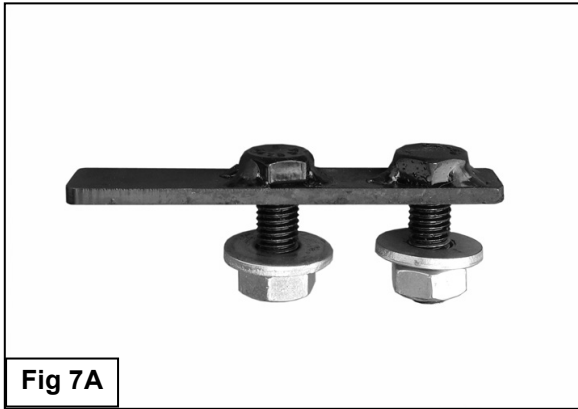
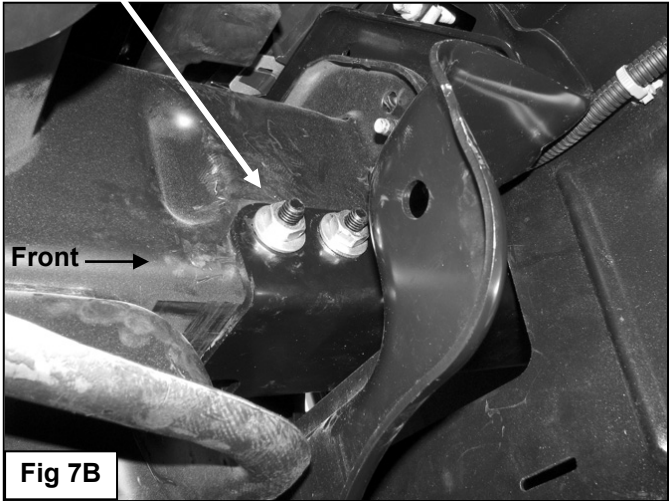

Fig 7A
Fig 7B
3. Select (1) 12mm Double Bolt Plate, **(Figure 7A)**. Insert the Bolt Plate into the end of the frame, through the (2) holes in the side of the frame and out through the Bracket. Secure the Bracket to the Bolt Plate with (2) 12mm Flat Washers, (2) 12mm Lock Washers and (2) 12mm Hex Nuts, **(Figure 7B)**. Snug but do not fully tighten hardware at this time. Repeat this **Step** to install the 12mm x 35mm Single Bolt Plate, **(Figure 8A)**, into the remaining hole in the other side of the frame channel and Bracket, **(Figures 8B & 8C)**.